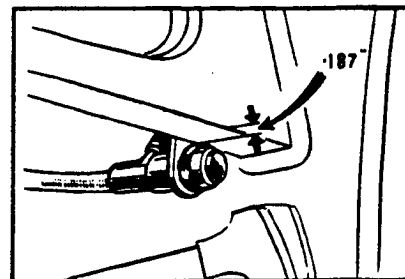

FIG. 5.
5. Fit the Control Valve below the right-hand glove box as shown in Fig.5:-